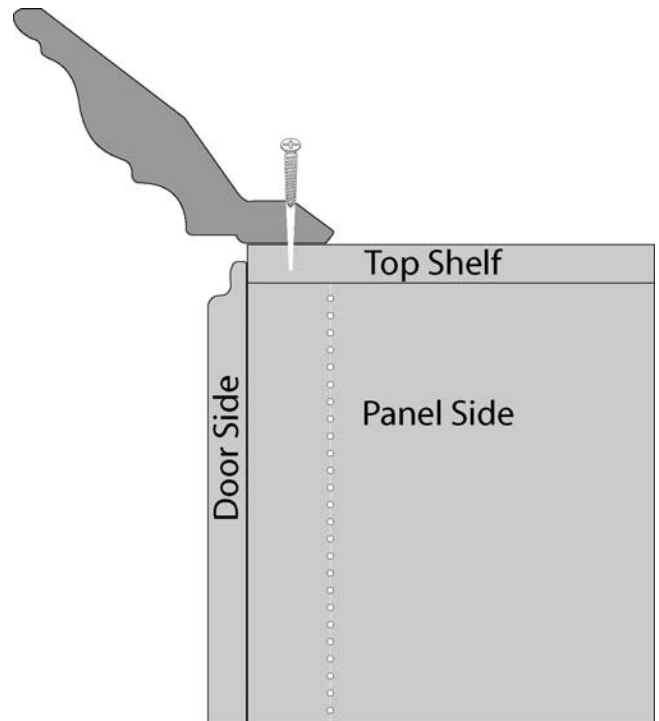

Fig. 12
11. Predrill each screw location to fasten molding to cabinet(s). Screw in the molding through predrill holes in each corner and along the length where needed (approx. every 12"-14"), using #2316 (#8x1¼") screw (*Fig. 12*).